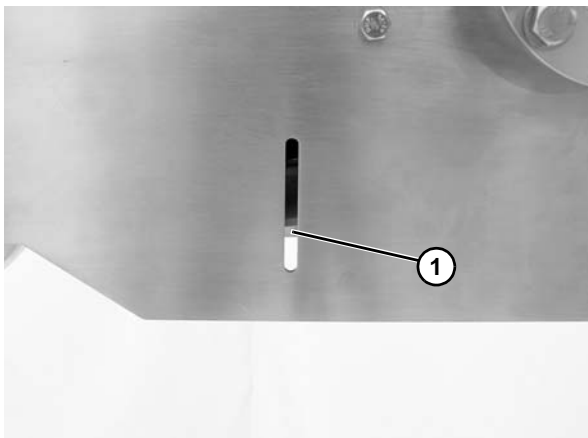

**Figure 14**
- a. Install belt around drive end (**Figure 14, item 1**) of conveyor and bring the ends of the belt together.